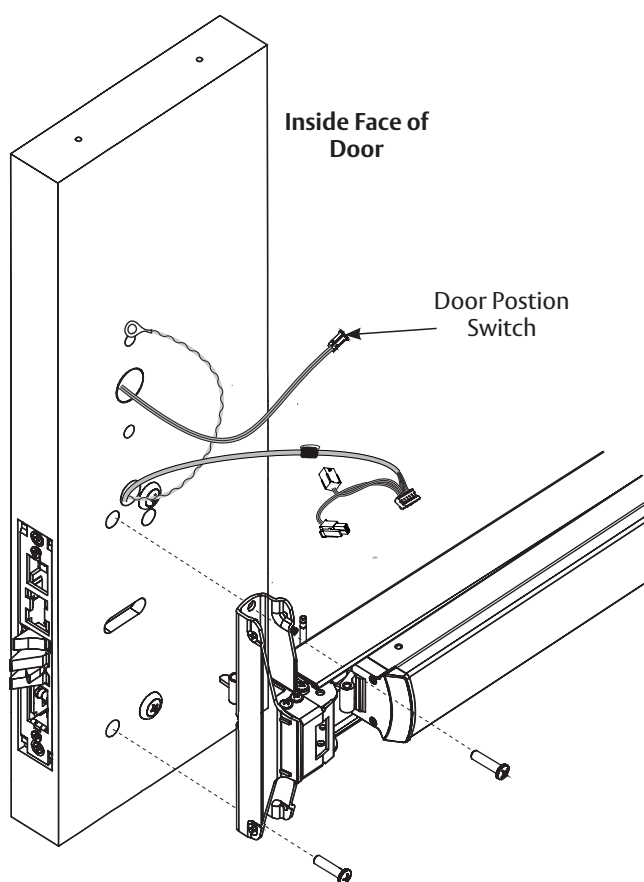

Figure 6-4A
1. Seat device against door being careful to align vertical trim tailpiece to engage with cross hole of device cam. (Figure 6-4A)
2. Fasten device to trim assembly using two (2) 1/4-20 pan head screws. (Figure 6-4A)